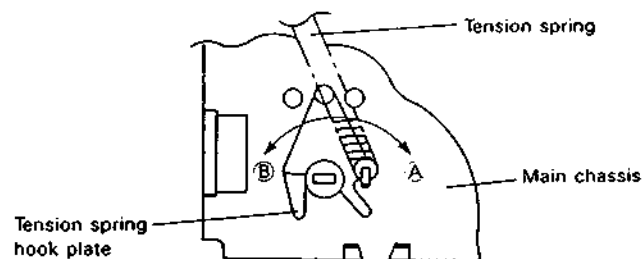

Figure 1-15.
• Position adjustment (Fig. 1-15)
1. If the tension pole is at the right of the supply impedance roller's center, shift the tension band control bracket ① in the direction of arrow → ②, and tighten the screw ③.
2. If the tension pole is at the left of the supply impedance roller's center, shift the tension band control bracket ① in the direction of arrow → ④ and tighten the screw ③.
• Adjustment (Fig. 1-15)
1. If the back tension is lower than specified, move the tension spring hook plate ① in the direction of arrow → ② so that the protuberance behind be tight in the hole.
2. If the back tension is higher than specified, move the tension spring hook plate ① in the direction of arrow → ③ so that the protuberance behind be tight in the hole.